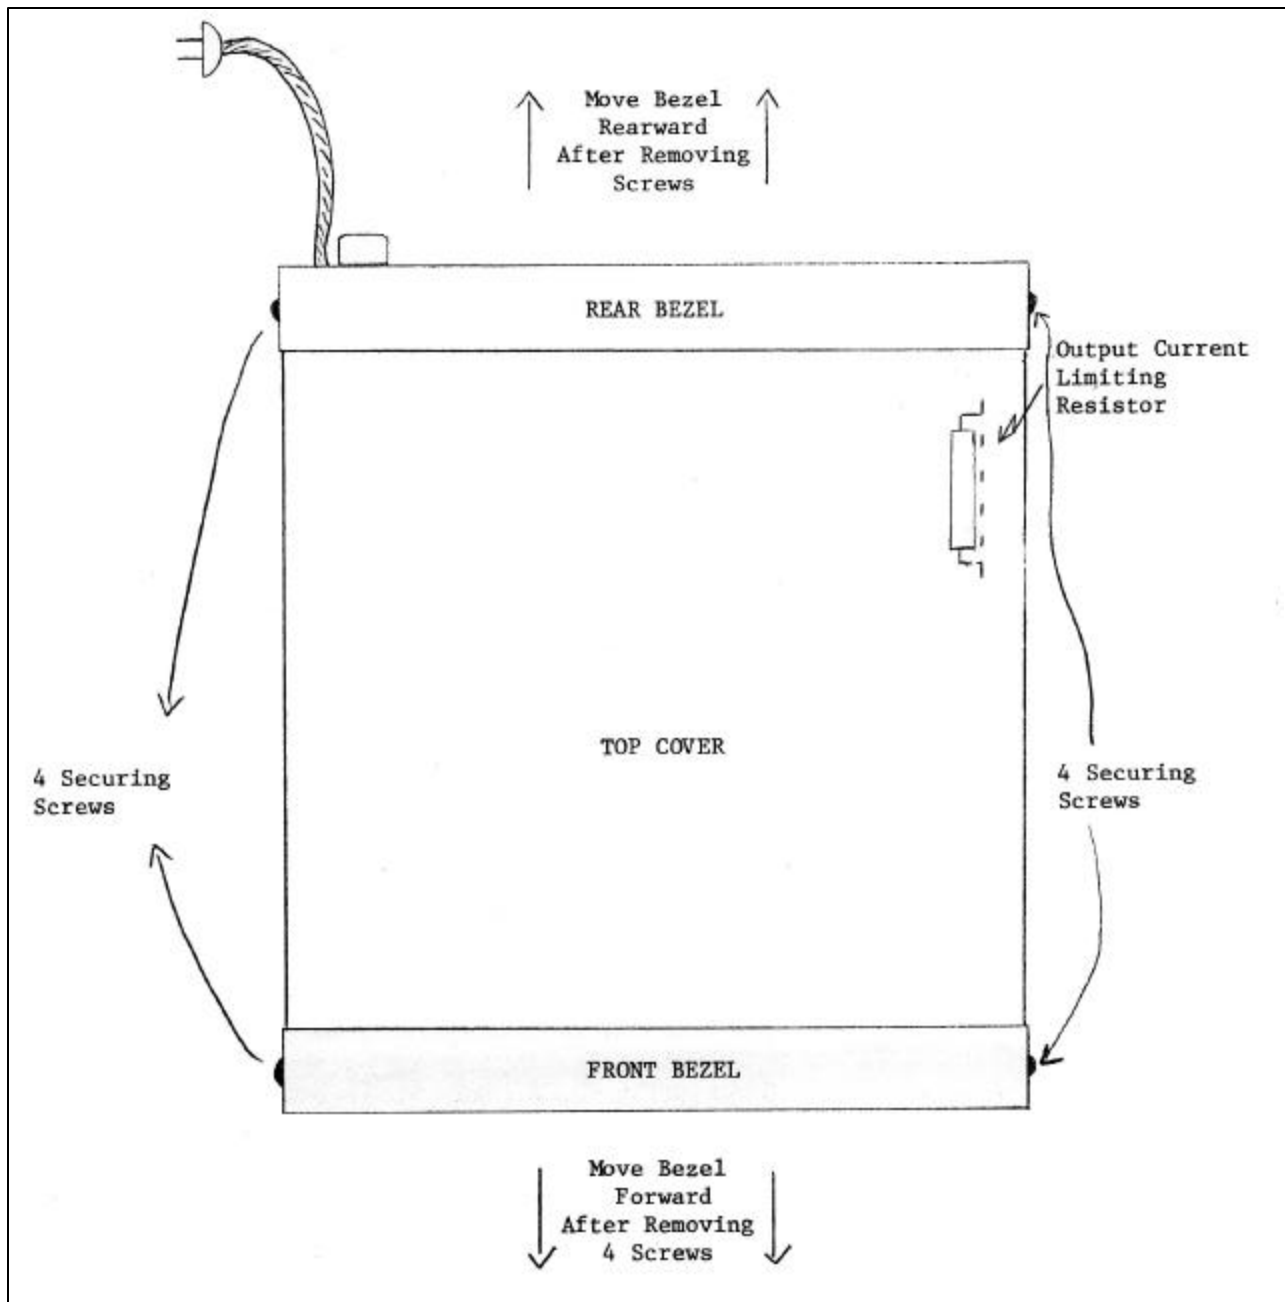

Figure 3-1
The power supply is shipped with an internally located 100 Megohm series resistor that limits the short circuit current to 100 microamperes. This resistor is located in the upper right hand corner of the unit, as shown in Figure 3-1. To gain access to this resistor, the top cover of the unit must be removed. To do this, first unplug the AC line cord, then remove the eight (8) screws that secure the front and rear bezels to the case (there are four (4) screws securing each bezel to the case). Slide the bezels away, then pull the top cover gently upward and away from the case (Figure 3.1).